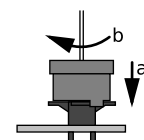

Figure 16. Ferrite Mounting
1. Stick the connection cable through the ferrite. The correct direction of the ferrite can be taken from Figure 16, Step 1.
2. Connect the cable to the connector on the MAG (see Figure 16, Step 2).
3. Stick the ferrite on the connector on the MAG (a) and turn it clockwise (b) until a click is audible and the ferrite is fixed. (see Figure 16, Step 3).